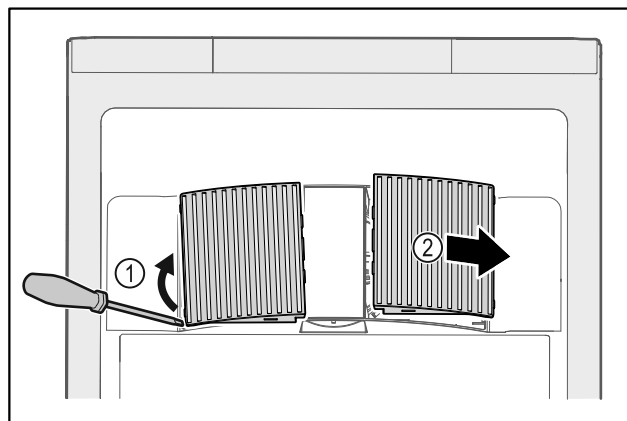

Fig. 234
- ▶ Carefully lever out fan covers from the side Fig. 234 (1) and remove towards the front Fig. 234 (2).